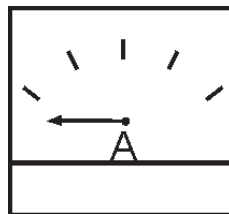

**Figure 46. Voltmeter**
10. The generator's AC-voltmeter (Figure 46) will display the generator's output in **VOLTS**. If the voltage is not within the specified tolerance, use the voltage adjustment control knob (Figure 47) to increase or decrease the desired voltage.